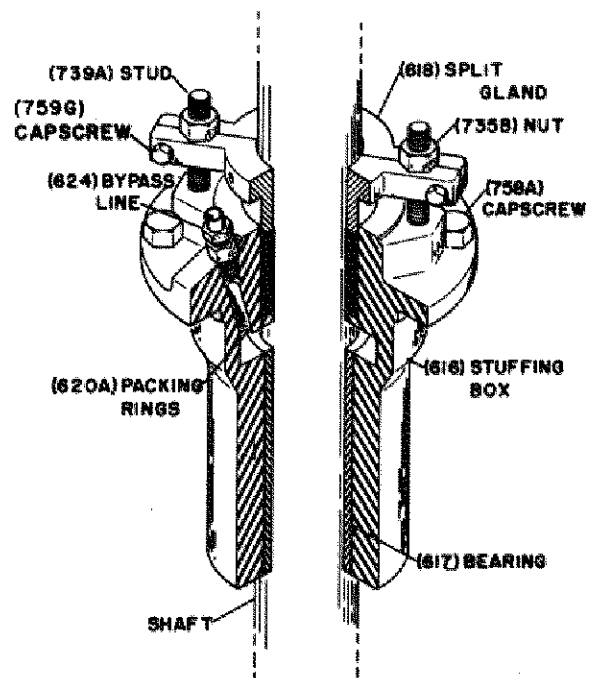

FIGURE 8-1. STUFFING BOX
box (616) down over shaft and into position on gasket. Secure stuffing box with capscrews (758A). (See Figure 8-1.)
D. Twist the packing ring sideways to get ring around the shaft and start the first ring into the stuffing box. When the entire ring is worked in using the fingers, tamp it down using a split wooden bushing or equal and push the packing ring hard, it must seal on the shaft and bore. Install the required rings in this manner. Stagger ring joints 90 degrees apart. The split gland (618) may be used as a tamper for the topmost ring.
F. Place split gland in the stuffing box. Thread nuts (735B) and tighten with a wrench and then relieve the nuts and take up only finger tight. Thread bypass line (624) into stuffing box.